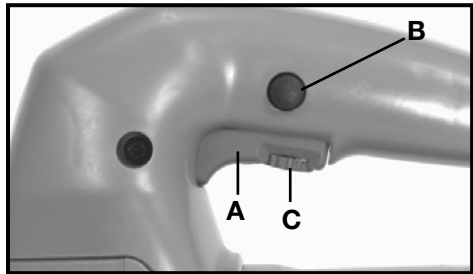

Fig. 5
1. Squeeze trigger switch (A), Fig. 5, to start motor. Release trigger to stop motor.
2. Lock Button – A lock button (B), Fig. 5, is provided to keep the saw running without holding the switch trigger “ON”. To lock the switch trigger “ON”, squeeze the trigger as far as it will go and push in the lock button and release trigger.
This saw is equipped with an adjustable variable speed control and the speed range is 500 to 3100 SPM. The speed is adjusted by turning the control knob (C), Fig. 5. The speed control may be adjusted with or without the motor running. Use higher speed settings for fast cutting when finish and accuracy are not critical. Use slower speed settings when accuracy and finish are critical or for delicate materials.